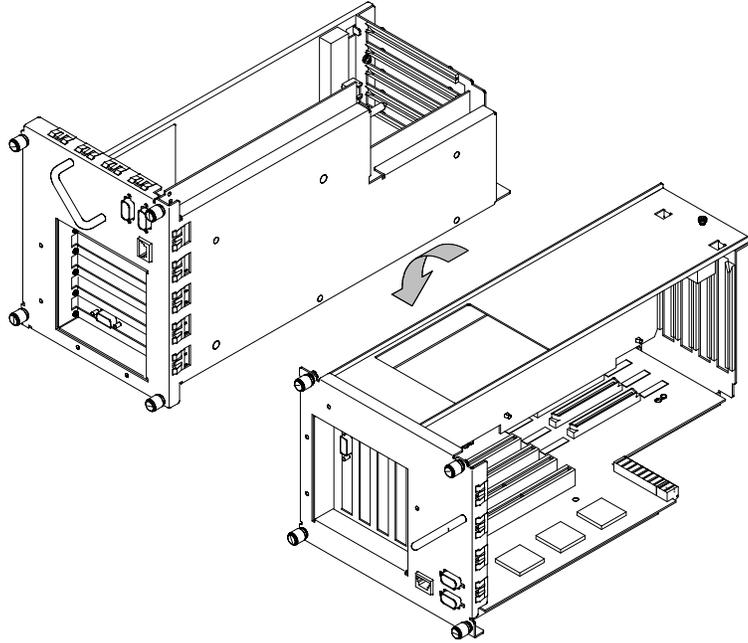

Figure B-39. Rotating the EISA Assembly Back
8. Rotate the unit back 90 degrees as shown in Figure B-39 and grasp the handle.